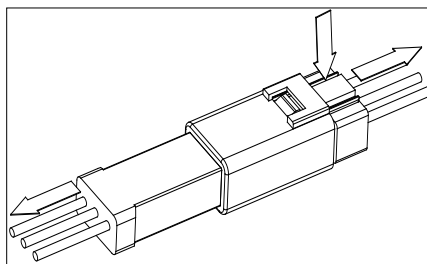

Fig. 7-2 Disconnect the watertight cable connector
2. Disconnect the watertight cable connector from cooling fan, as shown in Fig. 7-2.